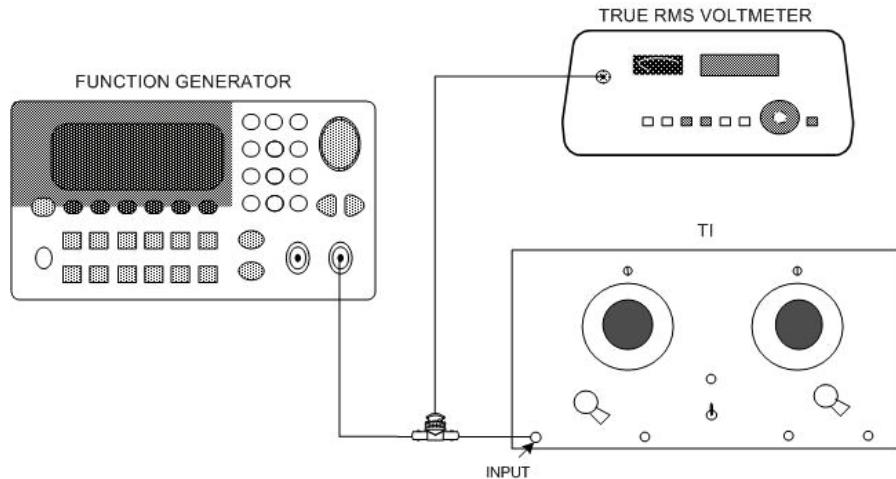

Figure 2. Unity gain check - equipment setup.
- (1) Connect equipment as shown in figure 2, using termination.
- (1) Connect equipment as shown in figure 2.
- (2) Set **CUTOFF FREQ Hz** dial to **20** and selector switch to **HIGH PASS X1**.
- (3) Adjust function generator frequency to 2 MHz and amplitude for a 0.03 V indication on true rms voltmeter.
- (4) Move true rms voltmeter connection from **INPUT** to **OUTPUT** connector. If true rms voltmeter does not indicate between 0.0282 and 0.0318 V, perform b (1) below.
(5) Set selector switch to **HIGH PASS X10K**. True rms voltmeter will indicate between 0.0318 and 0.0282 V.
(6) Set **CUTOFF FREQ Hz** dial to **22** and selector switch to **HIGH PASS X100**.
(7) Adjust function generator frequency to 600 kHz and amplitude for a 0.3 V indication on true rms voltmeter.
(8) Connect frequency counter to **INPUT** connector.
(9) Set selector switch to **HIGH PASS X10K**. If true rms voltmeter does not indicate between 0.289 and 0.310 V, perform **b** (2) and (3) below.
(10) Set selector switch to **HIGH PASS X100**.
(11) Adjust function generator frequency to 110 kHz as indicated on frequency counter and amplitude for a 1 V indication on true rms voltmeter.